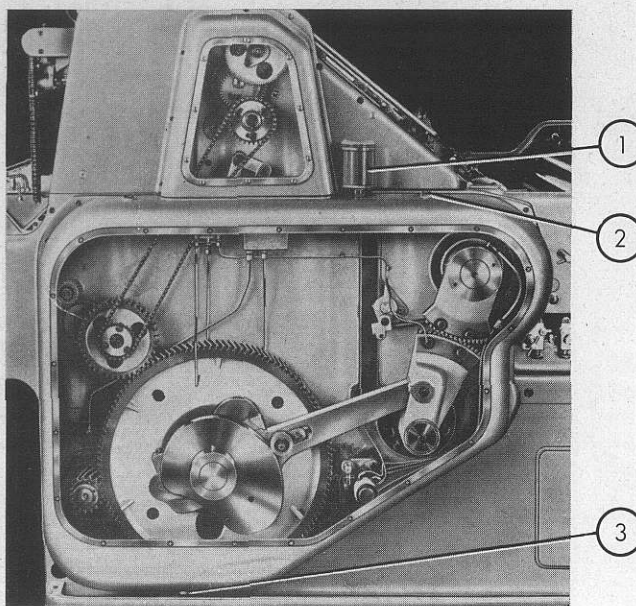

Fig. 2
A second small piston pump, also located in the casing on the left side of the press, with an independent glass vessel (No. 1, fig. 2) pressure oil lubricates the bed-ways and cylinder bushings.
- 1) **Oil level** through inspection hole. If level is lower than marked on inspection hole, add oil through upper hole after removing screw plug (No. 2, fig. 2).
- 2) **Regular Oil Flow** from oil nozzles by observing press operation through plastic cover (Fig. 2).
- 3) **Oil level** in transparent glass vessel of small piston oil pump on top of casting (No. 1, fig. 2).
To drain oil unscrew magnetic plug (No. 3, fig. 2) on lower hole at bottom of casing and carefully remove dirt and metallic fragments.